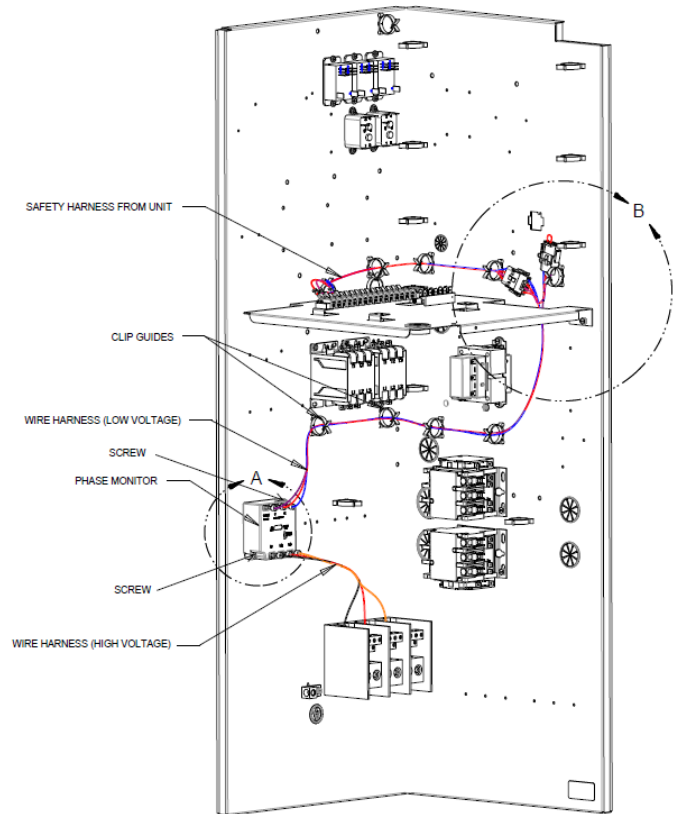

FIGURE 3
1. Refer to Figure 3 for the approximate placement of the phase monitor in the control box.
4. Connect the Power Harness (refer to Figure 3 & 4).
1. Connect the Low Voltage Harness (refer to Figure 3&4).